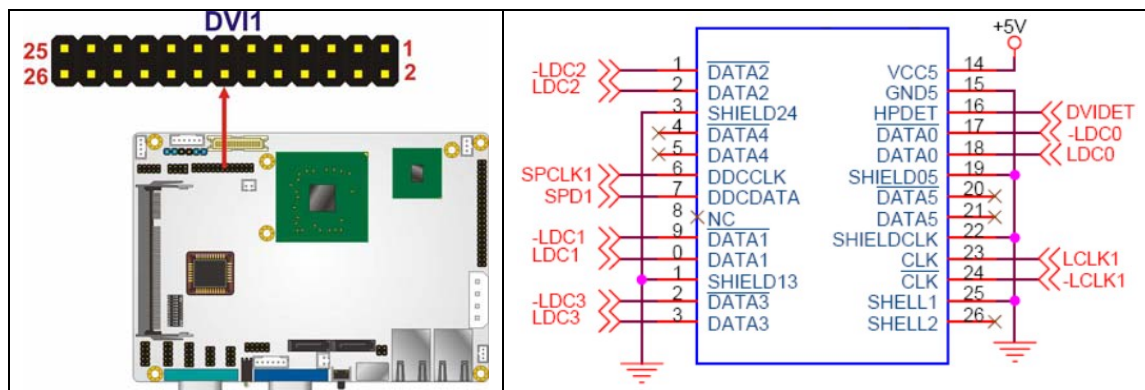

Figure 4-9: DVI Connector Location
- CN Location:** See Figure 4-9